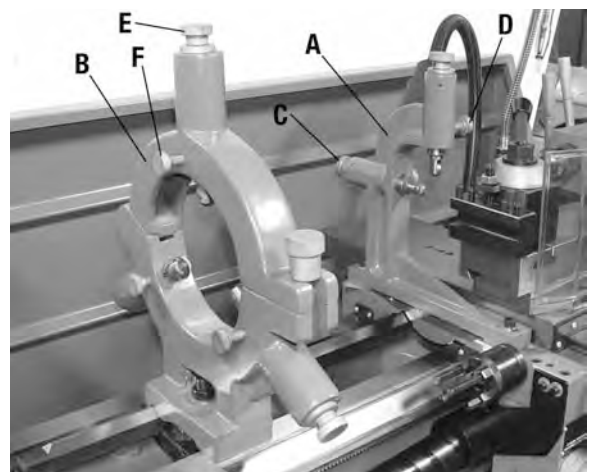

FIGURE 7
The follow and steady rests serve as workpiece supports during operations. Install the follow rest (A) Fig.7 to the carriage using 2 cap screws. Install the steady rest (B) to the bedway (inbetween the carriage and the chuck) using the clamp shoe, bolt and lock nut assembly.